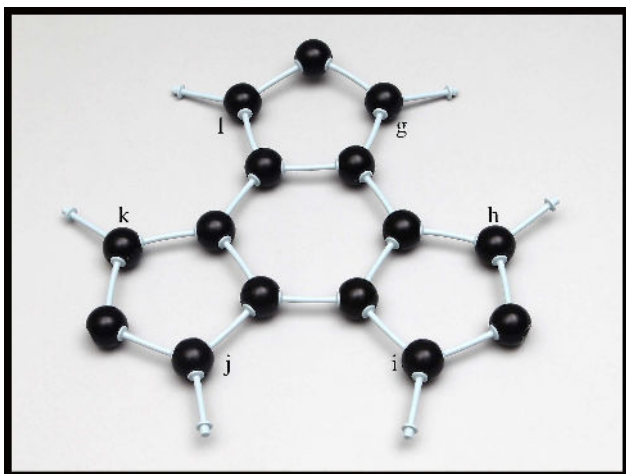

Fig. 3 Atoms g, h, i, j, k, and l with attached connectors.
3. Insert grey connectors into atoms g, h, i, j, k, and l. (Fig. 3).